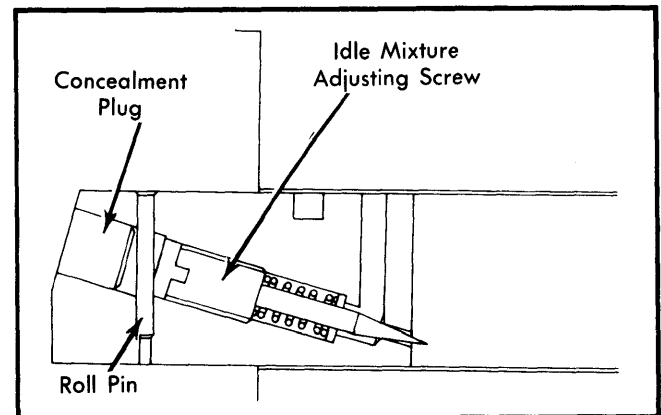

Fig. 4 Exploded View of Tamper-Proof Idle Mixture System
- 4) If necessary, reset idle speed with idle speed adjusting screw. Install roll pin and concealment plug into their respective holes to seal idle mixture adjusting screw. See Fig. 4.